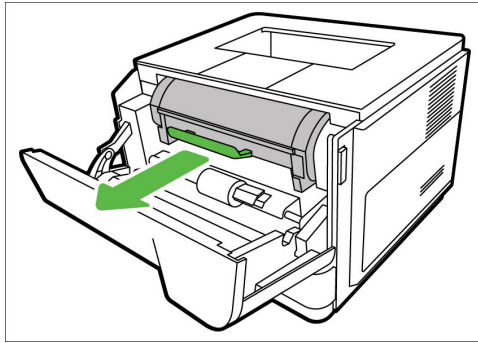

Figure 6-43. Removing toner unit from the Lexmark printer
- b. Pull the green handle on the toner unit out toward you to remove it from the printer. Remove any manufacturing tape (Figure 6-43).